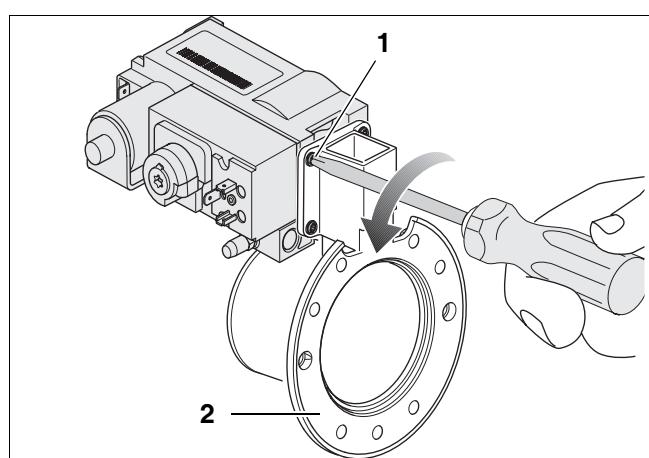

fig. 9 Removing the gas valve
- Undo the four screws (fig. 9, **pos. 1**) and remove the gas valve from the venturi (fig. 9, **pos. 2**).